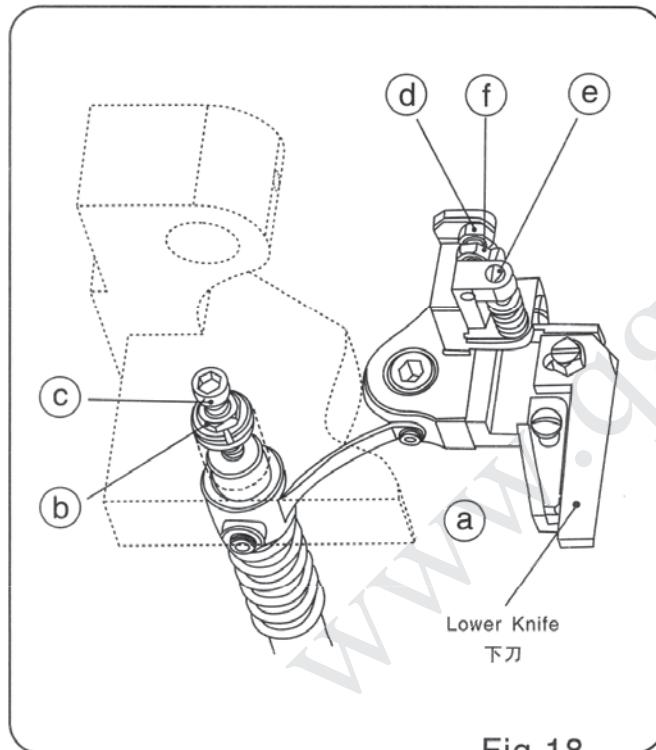

Fig.18
- b. When you do adjustment as requirement a), (Fig.18) loosen screw ④ and ⑤, rotary screw ⑥ to make lower blade position reaches requirement a then tighten.